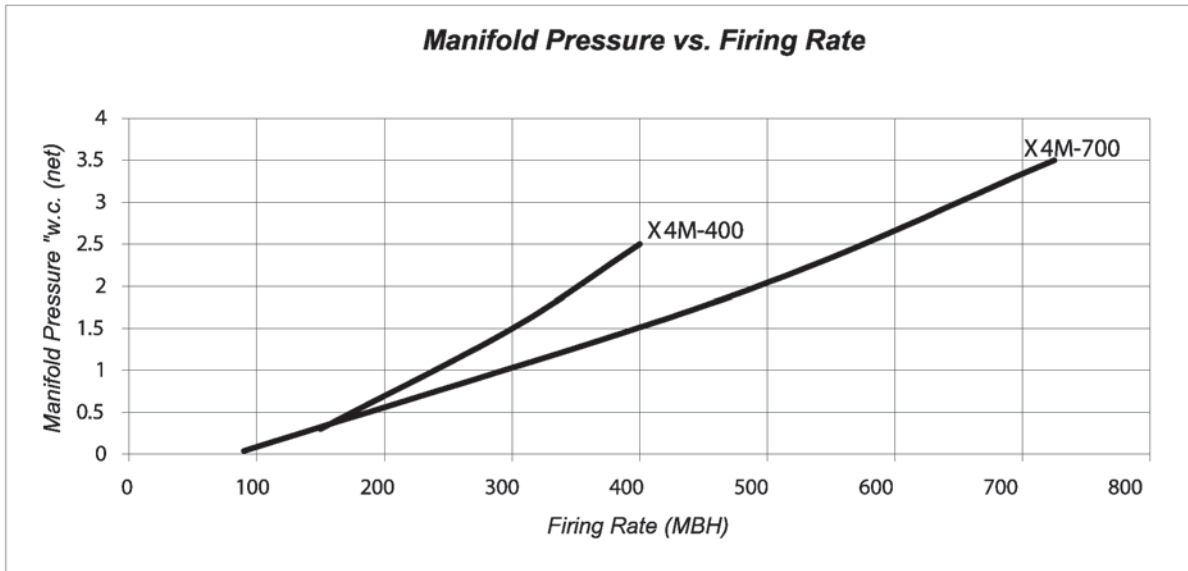

Figure 17: X4M Firing Rate vs Manifold Pressure
11.19 The manifold pressures shown are the gas pressures taken at the 1" tee and represent a zero furnace pressure (net manifold pressure). Therefore, the actual furnace pressure must be subtracted from these pressures to obtain the correct firing rate. Example: While firing an X4M-400, the Manifold pressure is 3.0" w.c. The furnace pressure from the manometer reads 0.5" w.c. Therefore, 3" - 0.5" = 2.5"w.c. **The chart in Figure 17** shows 2.5"w.c. net manifold pressure is equal to 400,000 BTUH.
- 12.3 When no orifice is used, refer to the pressure/rate on Figure 17, page 22 for the approximate manifold pressure (taken on orifice tee) for a given firing rate.